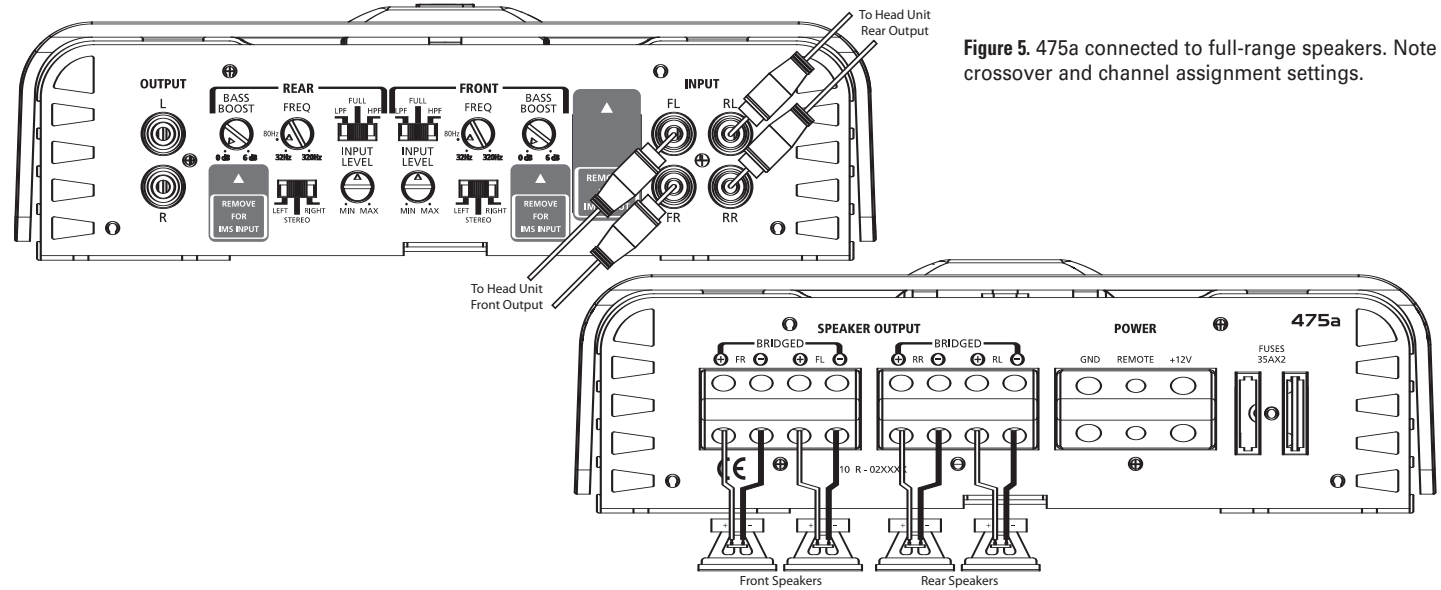

Figure 5. 475a connected to full-range speakers. Note crossover and channel assignment settings.
The 475a can be set up for stereo 4-channel, 3-channel or bridged 2-channel operation, as shown in Figures 5 through 8.
- Not all possible applications are shown here; e.g., the applications shown in Figures 5, 6 or 8 could include a separate subwoofer driven by an additional amplifier. In that case, the user should refer to Figure 6 for crossover and sub amp connection suggestions.